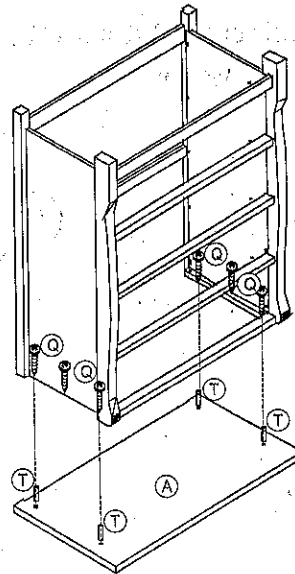

Figure 2
Use 6pcs 7/8" Wood Screw (Q) & 4pcs Wood Dowel(T) to attach the Top Panel(A) As shown in **Figure 2**.